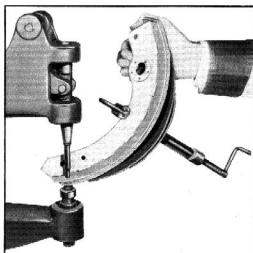

Fig. 19—Riveting Brake Lining to Shoe
- 5. After the end holes in the lining and shoe are in alignment, the rivets may be installed in both ends, Fig. 19.